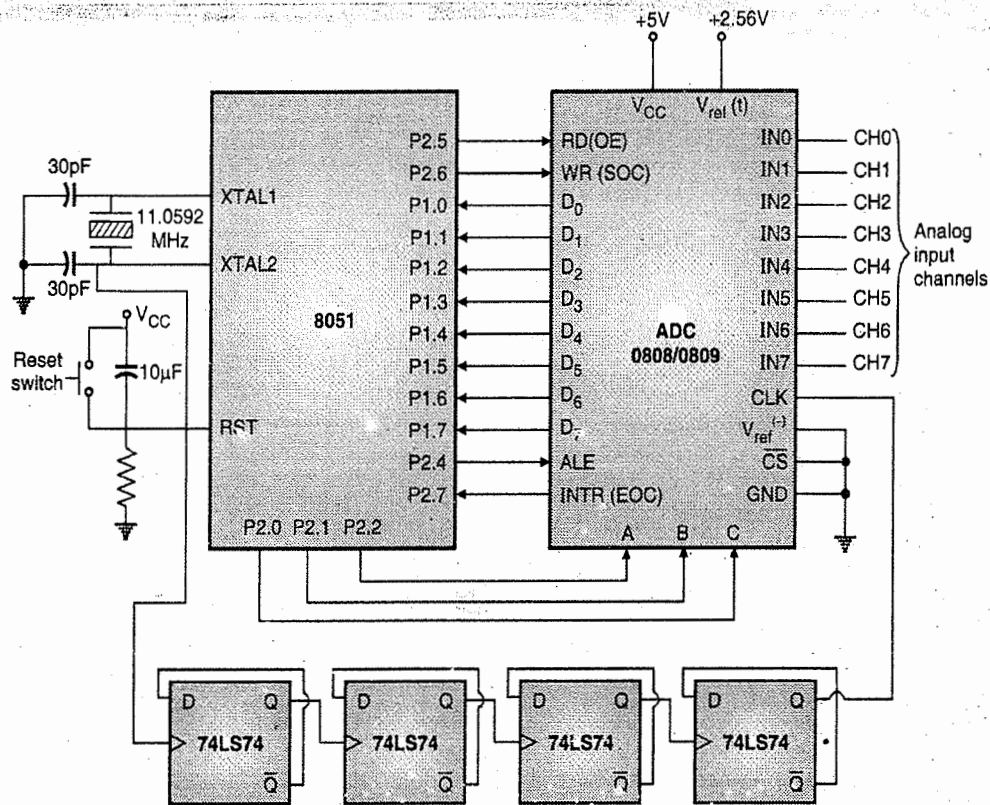

Fig. 2.8.3 : Interfacing 8 channel 8 bit ADC to 8051
The digital output is available to these pins.  $2^{-1}$  represents the MSB and  $2^{-8}$  represents the LSB of digital output. Fig. 2.8.3 shows typical interfacing of 8 channel, 8 bit ADC to 8051.
Fig. 2.8.3 shows interfacing of 8 channels, 8 bit ADC to 8051.
- Fig. 2.8.3 the clock source to ADC0808/0809 is from the crystal oscillator. But this frequency is very high for the A/D converter. Hence, four D flip-flops are used for dividing the frequency.